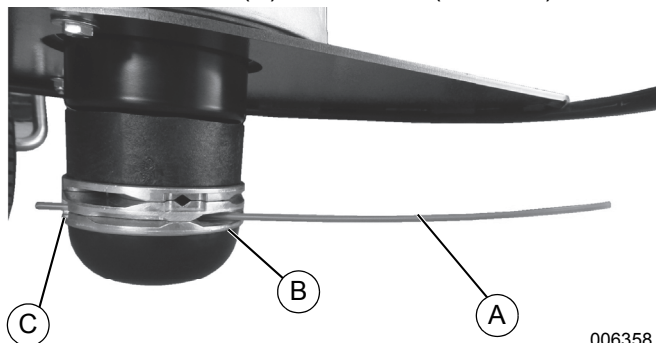

Figure 2-5. Installing Cutting Cords
1. See Figure 2-5. Insert trimmer cord (A) into inlet hole (B) and push it in until the end protrudes out the other side (C) about 1/2 in (12.7 mm).